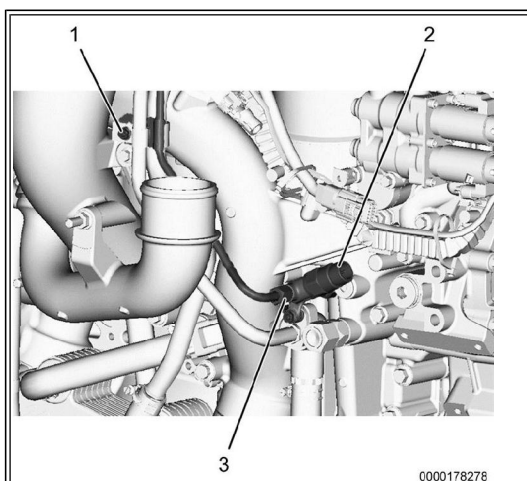

Figure 12: Turbo Oil Supply Tube T-fitting Flare Nut.
28. Install M8 nut (Figure 12, Item 1) over turbo supply line bracket, heater and cooler line brackets and stud bolt in high-pressure turbocharger air inlet duct.
29. Install turbo oil supply tube flare nut (Figure 12, Item 3) to T-fitting. Using torque wrench, tighten nut to 19 lb-ft (26 N•m).
30. Install EOP sensor (Figure 12, Item 2) to T-fitting. Using torque wrench, tighten sensor to 33 lb-ft (45 N•m).